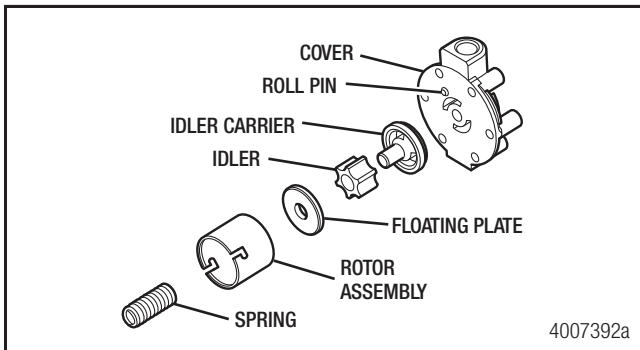

Figure 7.40
- Install the floating plate, idler and idler carrier into the rotor body. Figure 7.40.